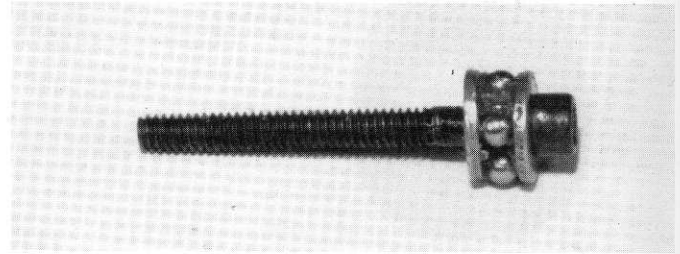

**Fig. 45**
□ **Figs. 45 & 46** Slip the two washers on the bolt, as shown, and then fill the area between them with the #6588 black grease. DO NOT use the black grease on the diff balls in the gear.